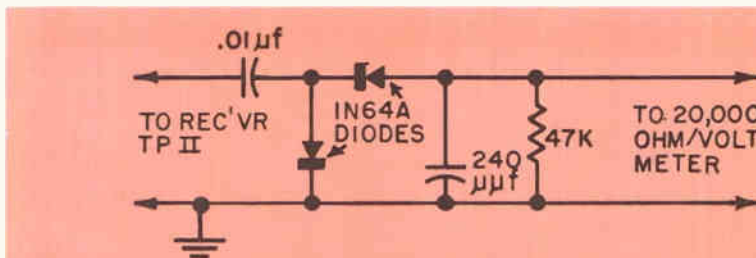

Fig. 1 Diode Probe
Receiver alignment usually requires the use of a VTVM as an indicating device. However, in some cases it may be satisfactorily accomplished if the detector isolating network shown in Fig. 1 is used with the VOM. The network may be enclosed in a pencil type probe, if desired, for convenience. This probe is to be used with the d-c setting of a 20,000 ohm per volt VOM.
Connect a VTVM to Test Point II on the remote receiver. Connect ground lead of VTVM to remote receiver chassis ground. (A 20,000 ohm/volt meter can be used in conjunction with a simple detector as shown in Fig. 1.)
1. Connect a VTVM to Test Point II on the Remote Receiver. Connect ground lead of VTVM to Remote Receiver chassis ground. The 20,000 ohm per volt meter may also be used if the detector probe outlined in Fig. 1 is provided.